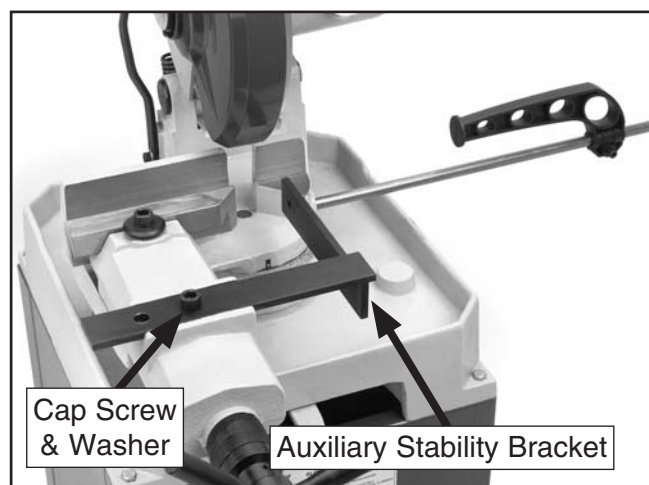

Figure 27. Auxiliary stability bracket.
2. Loosen and remove the cap screw and washer shown in **Figure 27**.